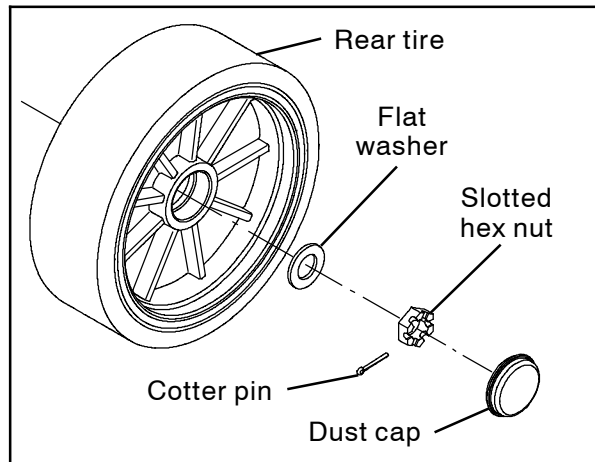

FIG. 2
1. Remove the rear wheel from the machine. Set the wheel, dust cap, slotted hex nut, cotter pin, and flat washer aside. (Fig. 2)